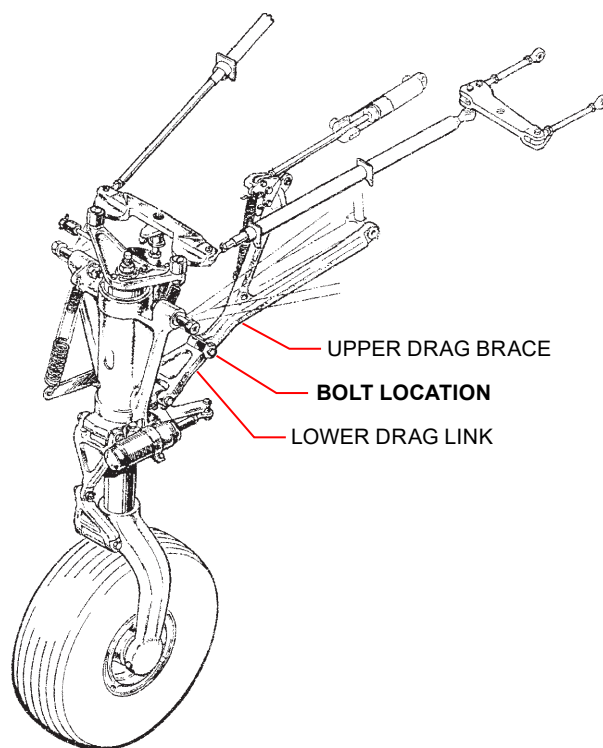
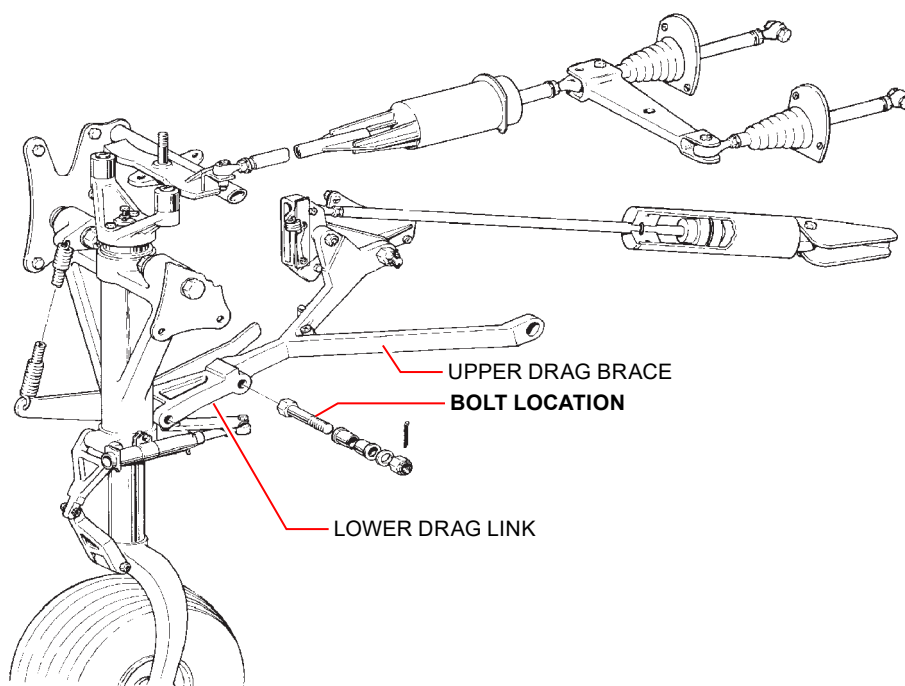

Figure 1
Figure 2
2. Disassemble the upper drag brace from the lower drag link by removing the NAS464P4-27 bolt that functions as a hinge pin for the two parts. See Figure 1 or Figure 2, as applicable. Discard the cotter pin, regardless of condition. The castellated nut, washers and bearings may be reused, depending on condition.
NOTE: The nose gear drag link assembly is comprised of two major components: the upper drag brace and the lower drag link. The line ream operation described above applies only to the upper drag brace, and does not apply to the lower drag link. See Figure 1 or Figure 2, as applicable.